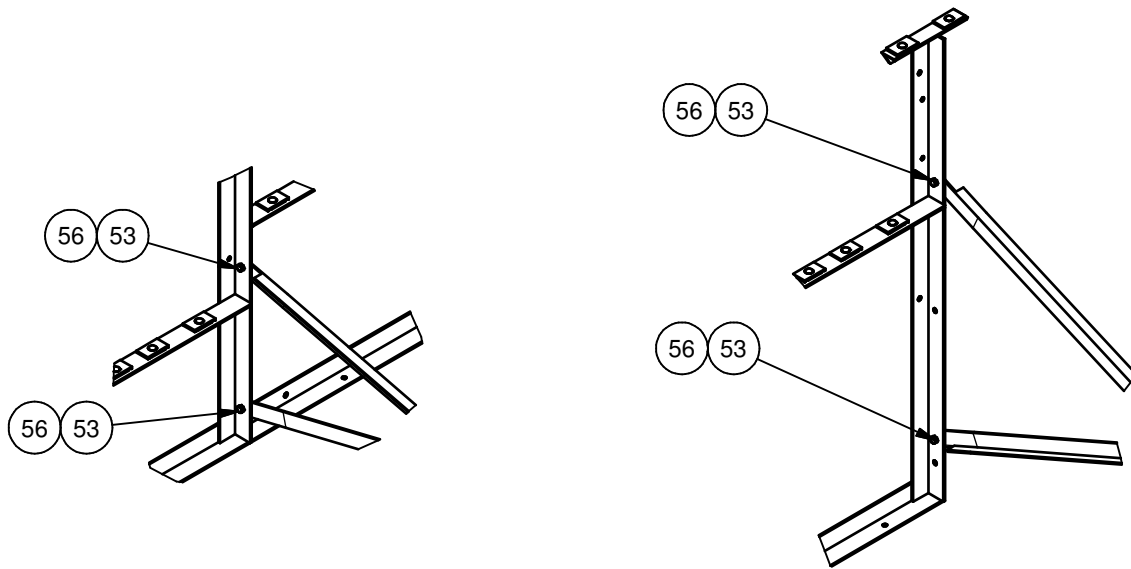

Figure 4
3. Lay out the Frame weldments approximately 5' apart. Refer to figure 3 for proper frame spacing. Install the brace sub-assemblies from step 2 using the 3/8" x 1" hex bolts and 3/8" whizlock nuts as shown in Figure 4. Cross braces are connected to the frames at verticals 3,4,6,9,and 10. Refer to figure 3 for item number and page 2 for brace angle length. NOTE: Cross braces are located in the end bays. Straight spacer braces are located in center bay at row 3 and row 10 only. After all braces are installed, square the frame and make sure the front of the frame is in line.